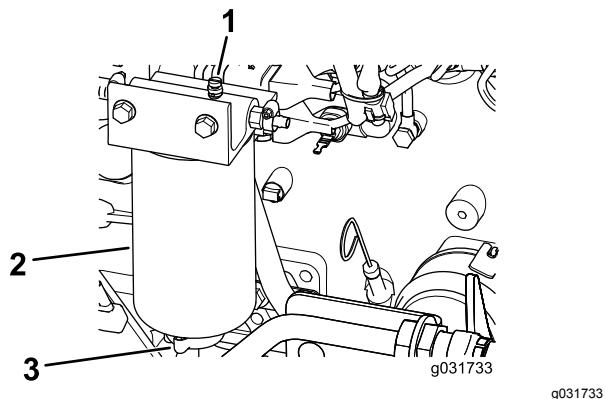

Figure 88
2. Loosen the drain valve on the bottom of the filter (Figure 88).
2. Drain some fuel by loosening the vent plug and opening the drain valve (Figure 88).